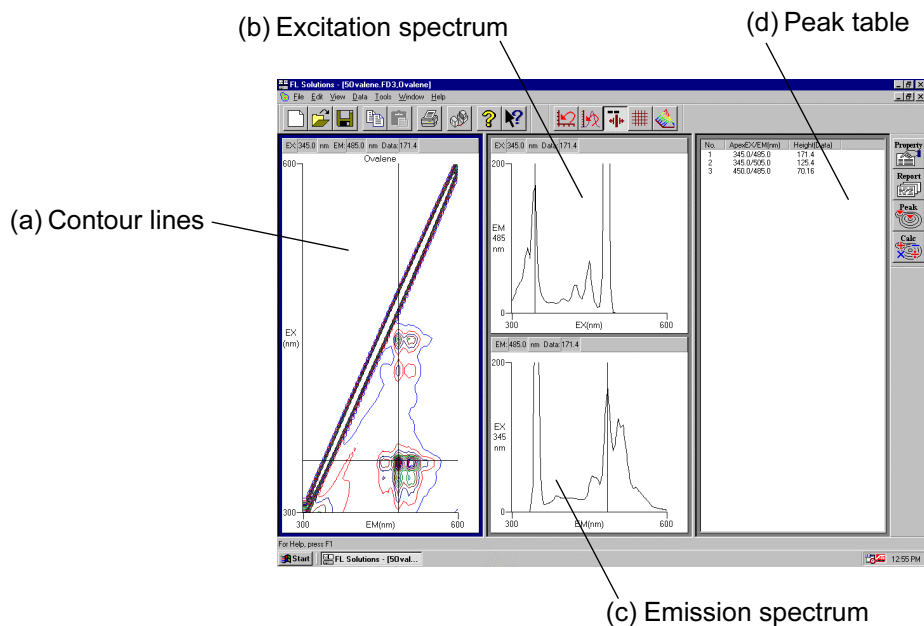

Fig. 5-9 Data Processing Window (3-D Scan)
- (2) When automatic saving is set, data will be saved after completion of measurement. Unless automatic saving is set, select the Save As command from the File menu and save data in file. Upon opening its file, a data processing window will appear as in Fig. 5-9.
- (1) Select the Print command from the File menu. Or click the  print button on the toolbar. The field active on the data processing window (e.g., (a) in Fig. 5-9) will be printed. The contents of display upon clicking the Print Preview command in the File menu will be printed.